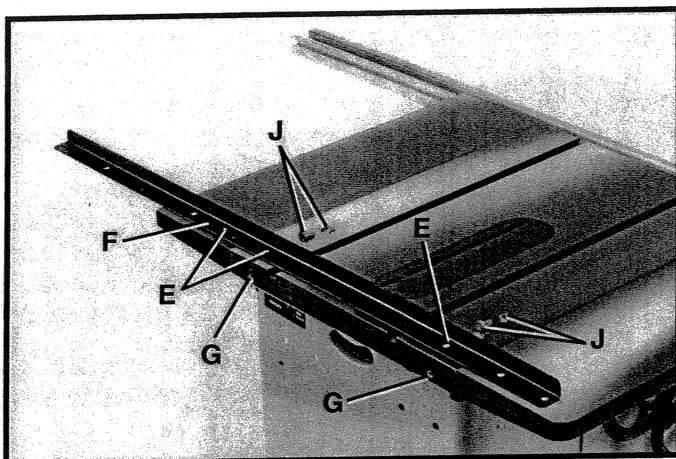

Fig. 13
4. Align three holes (E) Fig. 13, in rear guide rail (F) with two threaded holes (G) in the rear of the saw table and one thru-hole in the right extension wing. Loosely fasten the rear guide rail to the saw table through two holes (E) with two one-inch long hex head screws (J) and flat washers. Fasten the rear guide rail to the extension wing through remaining hole (E) with 1-1/2" long hex head screw, flat washer, lockwasher, and hex nut (K). **NOTE:** Flat edge of rear guide rail will be face upward.